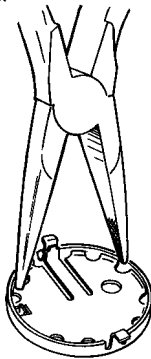

FIGURE 7. Removal of Card Support from W.E.Co. Card Holder Frame.
- 3.03 To take apart the card holder assembly from a W.E. Co. metal fingerwheel in order to install or change the number card, grasp the two protruding prongs of the card retainer spring between the thumb and forefinger, pinch them together and withdraw the spring from the frame. Push against the acetate window with a finger to force the window, number card and card retainer out of the card holder frame. On more recent assemblies which lack the card retainer and spring, a card support with a serrated edge is used, and is considerably more difficult to remove. Insert the tips of a pair of long nose pliers in the serrations which lie second from the top on each side, and gently compress the card support while drawing it out of the card holder frame (see Figure 7).